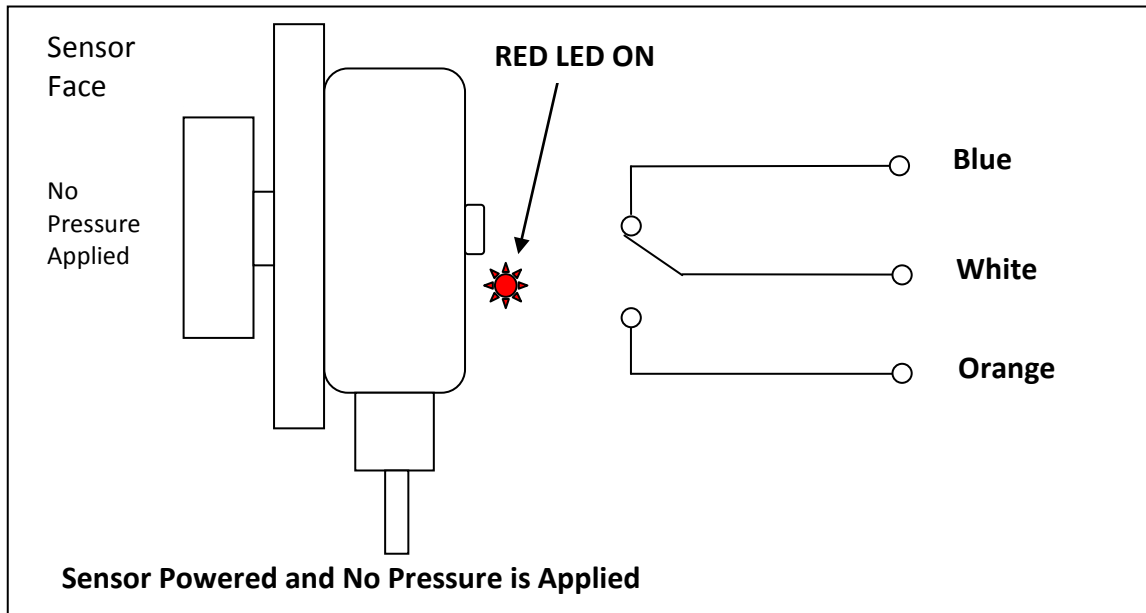
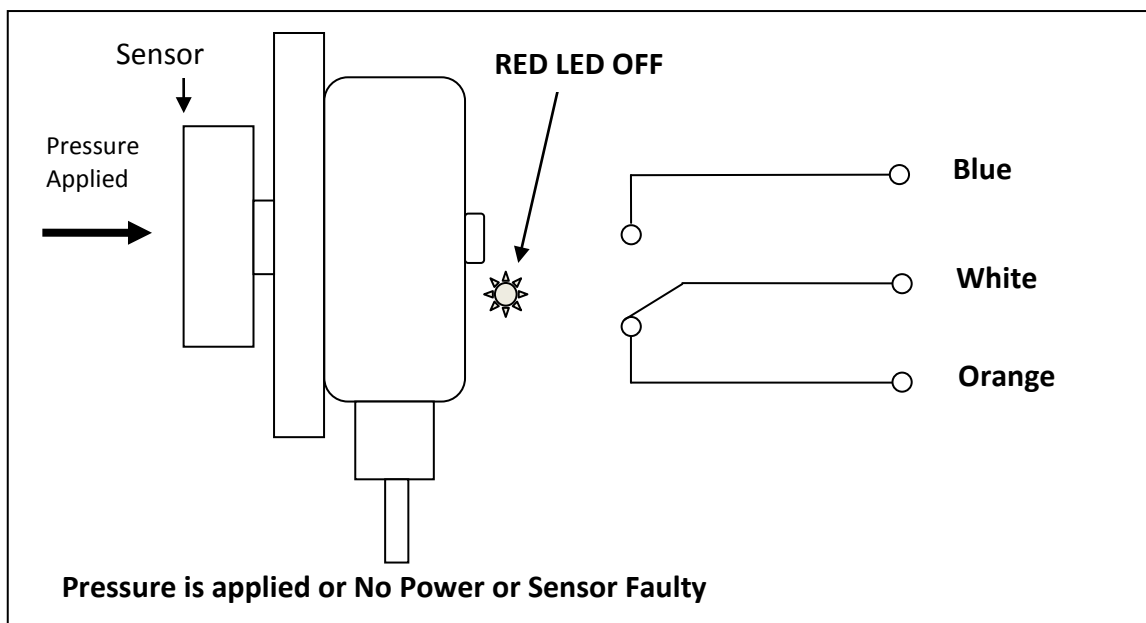

Figure 9 - TouchSwitch in Healthy Condition
Figure 10 - TouchSwitch in Alarm Condition
This is an electronic limit switch. The sensor reacts to pressure applied to the sensor face. If the **pressure is higher than 3.6kg**, then the sensor switches the relay to an **alarm condition** (see Figure 10). If the sensor is correctly powered, working and no pressure is applied to the sensor face then the sensor will energise the relay and indicate the healthy state by a lit up LED (see Figure 9).
- 1) Observe that the red output LED on the sensor housing (see Figure 9) is ON and the belt or pulley are not touching the sensor
- 3) Check that the alarms and shutdowns of the overall system work as expected (see Figure 10)